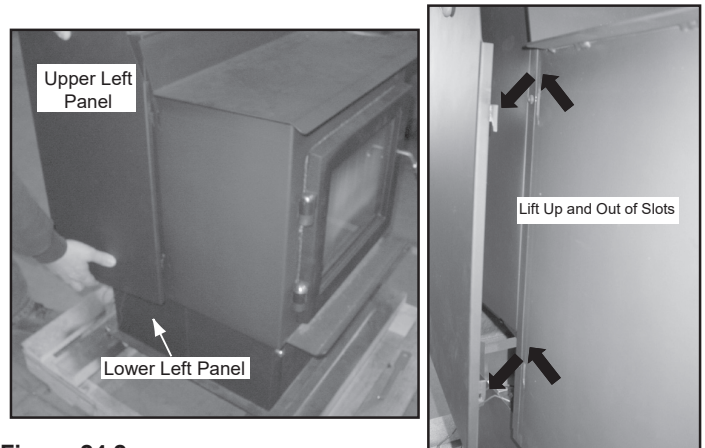

Figure 24.2
5. Remove the left upper and lower side panels by lifting up and out. The hooks on the panels will slide out of the slots on the appliance (**Figure 24.2**).
2. Remove both upper and lower right side curtains (**Figure 24.2 on page 24**).